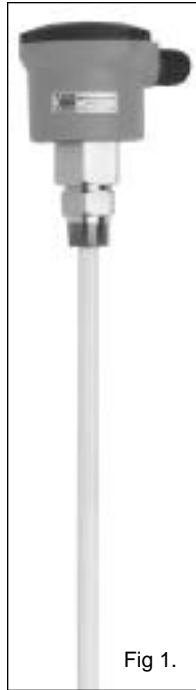
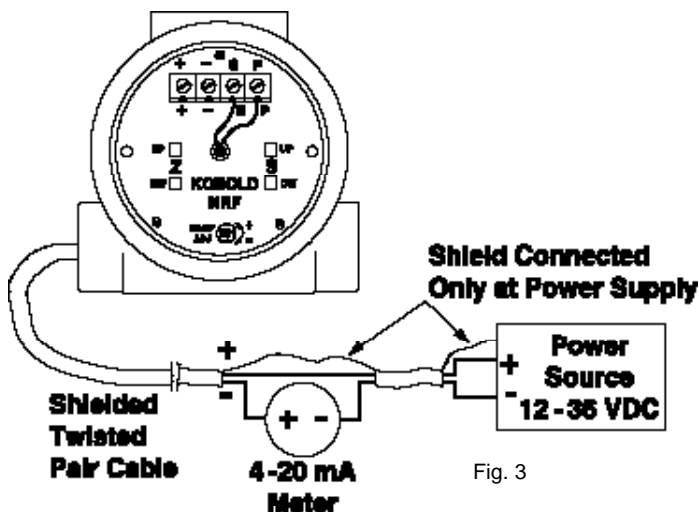

Fig 1.
Fig. 3
The **NRF** comes complete with the transmitter mounted in an enclosure, fitting and probe (Fig. 1). Micro-processor based electronics are protected and potted within a metal housing. Calibration is made via four push buttons (Fig. 3) as explained later. Variety of options including **Stainless** or **PVC** housings, rigid or flexible probes (bare or jacketed), **NPT**, sanitary or flange connections are available.
5. Connect positive supply wire to the positive terminal of the transmitter. See Fig. 3.
- a. Negative transmitter wire to positive meter terminal. See Fig. 3.
- b. Negative meter terminal to negative power source terminal. See Fig.3.
2. Connect the loop current meter as per instructions in WIRING section(Fig. 3).